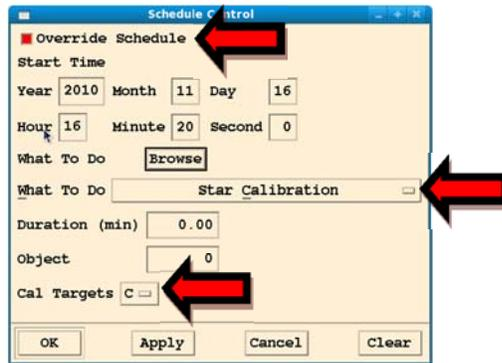

Figure 6-2: Schedule control window
6. Open the **Schedule** window and configure for Ground Calibration – (Figure 6-2)